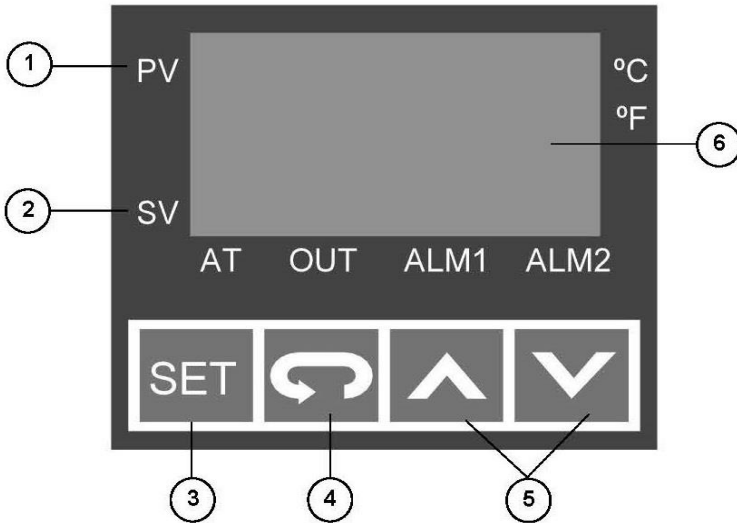

Figure 10-1
3. To change the temperature Set Value “SV”, press either UP or DOWN arrow (Figure 10-1, Item 5).
5. Use the UP or DOWN arrows (Figure 10-1, Item 5) to change the number to the desired value (Holding the buttons down continuously will result in rapid change of the value).
6. Once the desired value is established, press the set key (Figure 10-1, Item 3) to save the changes and the numbers will return to normal NON-FLASHING numbers.